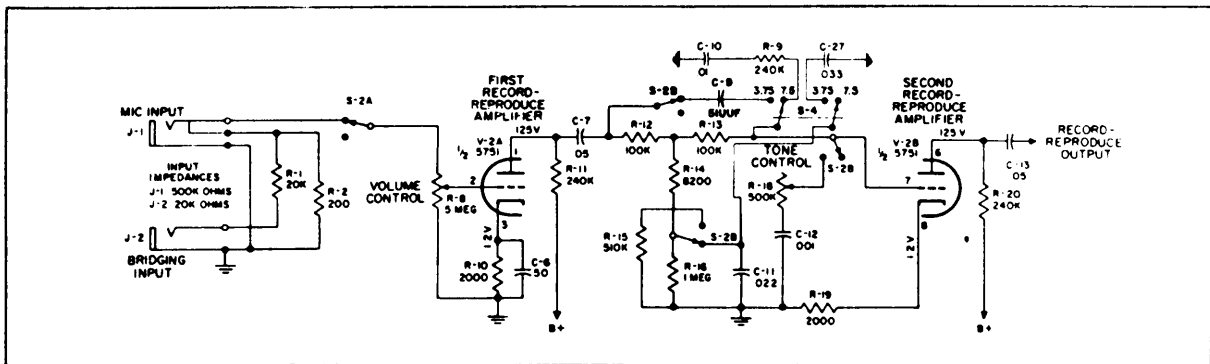

Figure 15. Input and Record Amplifiers - Schematic Diagram
5.8.2.1 INPUT AND AMPLIFIERS (See figure 15.)